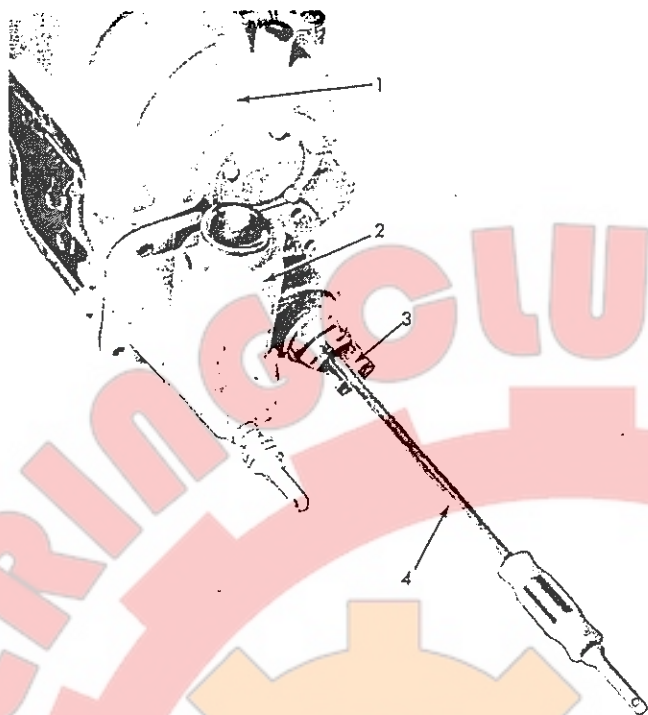

Fig. 4 Removing Shift Lever Housing
5. Remove capscrews attaching shift lever housing to transmission case; use slide hammer puller, Fig. 4, to pull shift lever housing (with input shaft) from transmission case. Remove universal joint rear yoke (if input shaft seal is seal ring type, front seal ring and gasket will be removed with yoke).